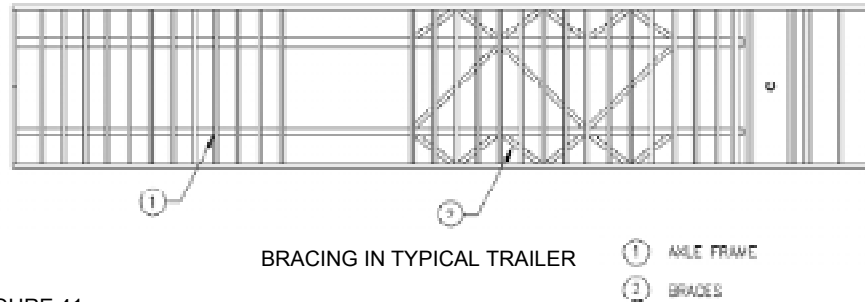

FIGURE 41
1. Install bracing as shown in (Figure 41) It is best to add bracing before removing the old floor because the floor keeps the trailer straight. If flat bar is used, make a cross bracing, because it will buckle easily under compression. Steel angle does not require a cross bracing. Make sure there is enough wheel clearance when installing steel angle. The bracing reaches to the drive opening. Weld or bolt the braces to each intersecting cross-member.